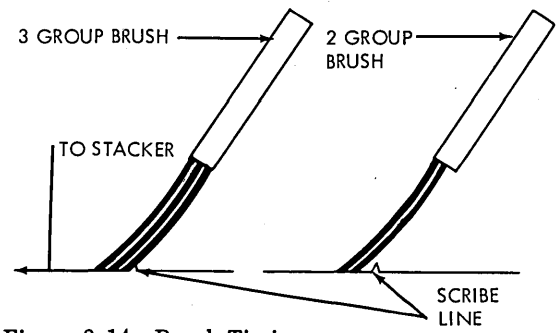

Figure 2-14. Brush Timing
2. Loosen locking screws at either end of brush assembly and shift block so that the heels of the brushes are .050" + .030" - .020" off the scribed line on separator toward the stacker (left in read feed) (Figure 2-14).
2. Loosen locking screws at either end of brush assembly and shift block so that the heels of the brushes are $.050'' + .030'' - .020''$ off the scribed line on separator toward the stacker (left in read feed) (Figure 2-14).